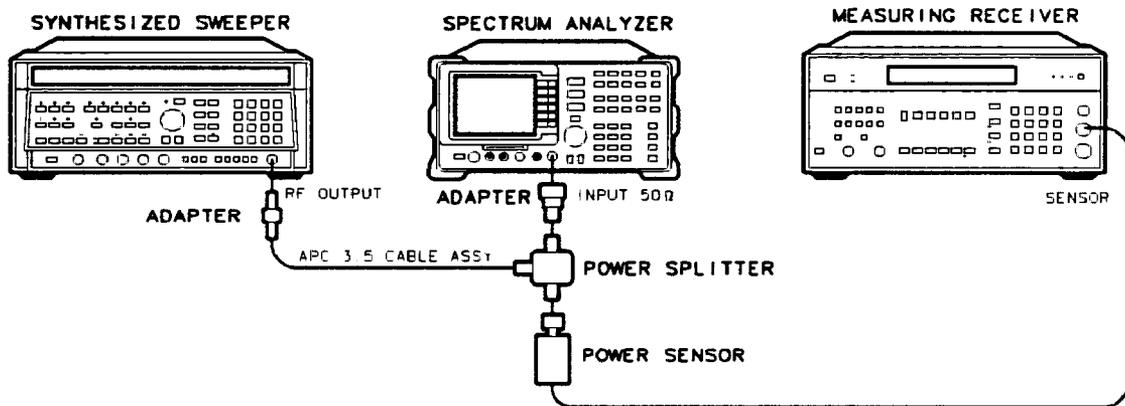

Figure 4-15. Frequency Response Test Setup, ≥ 50 MHz
2. Connect the equipment as shown in Figure 4-15.